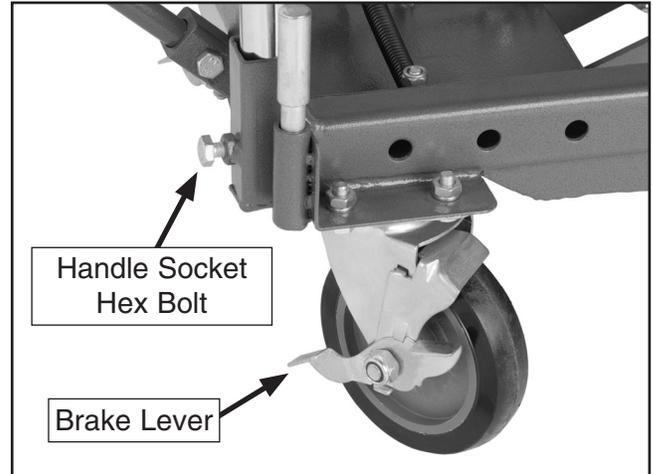

Figure 2. Brake lever.
1. Roll the cart to the desired location, then set the brakes on the two rear wheels by pushing down on the brake levers (see **Figure 2**).